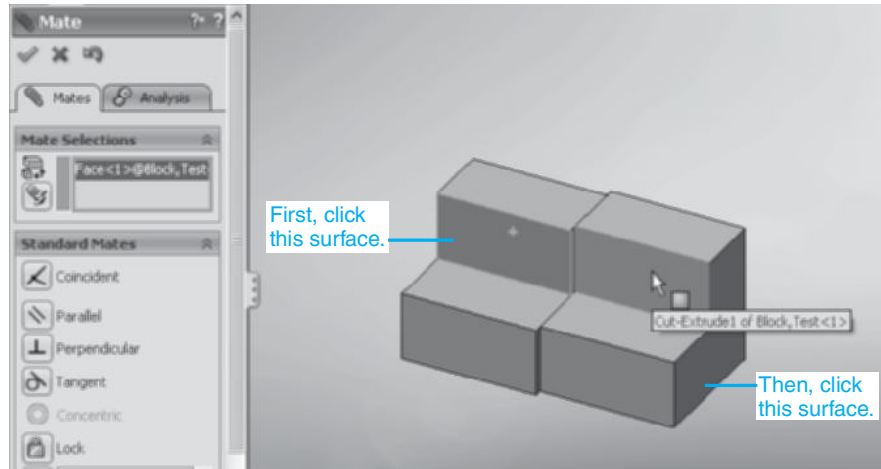
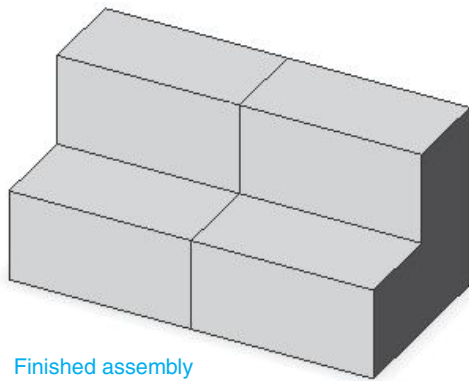

Figure 5-12
Figure 5-13
- See Figure 5-12. The surfaces will align. See Figure 5-13.